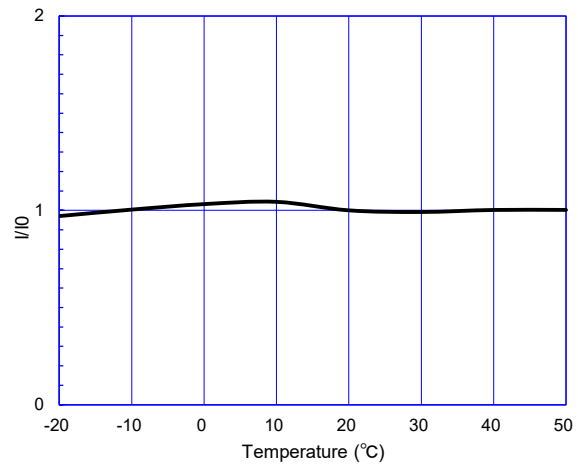

Fig. 7 - Temperature dependency (I₀=sensor output current at 20°C)
Figure 7 shows the sensitivity change with temperature measured using the recommended basic measuring circuit. The Y-axis shows the ration of output current in 8ppm of Cl₂ at various temperatures (I) to the output current in 8ppm of Cl₂ at 20°C.